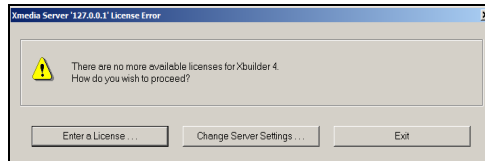

Figure 8-11. License error dialog box
When an Vertigo Suite application does not find a valid license on start up, it produces a licensing error (figure 8-11), which prevents the application from launching until the error is resolved.
When an Vertigo Suite application does not find a valid license on start up, it produces a licensing error (figure 8-11). The source of the error may be as simple as incorrect server settings. These settings allow the Xmedia Server to communicate licensing information to the application. Therefore, we recommend that you verify the server settings associated with the application using the application's **SETTINGS** dialog box.
1. Select the **CHANGE SERVER SETTINGS** button on the **XMEDIA SERVER LICENSE ERROR** window (figure 8-11).